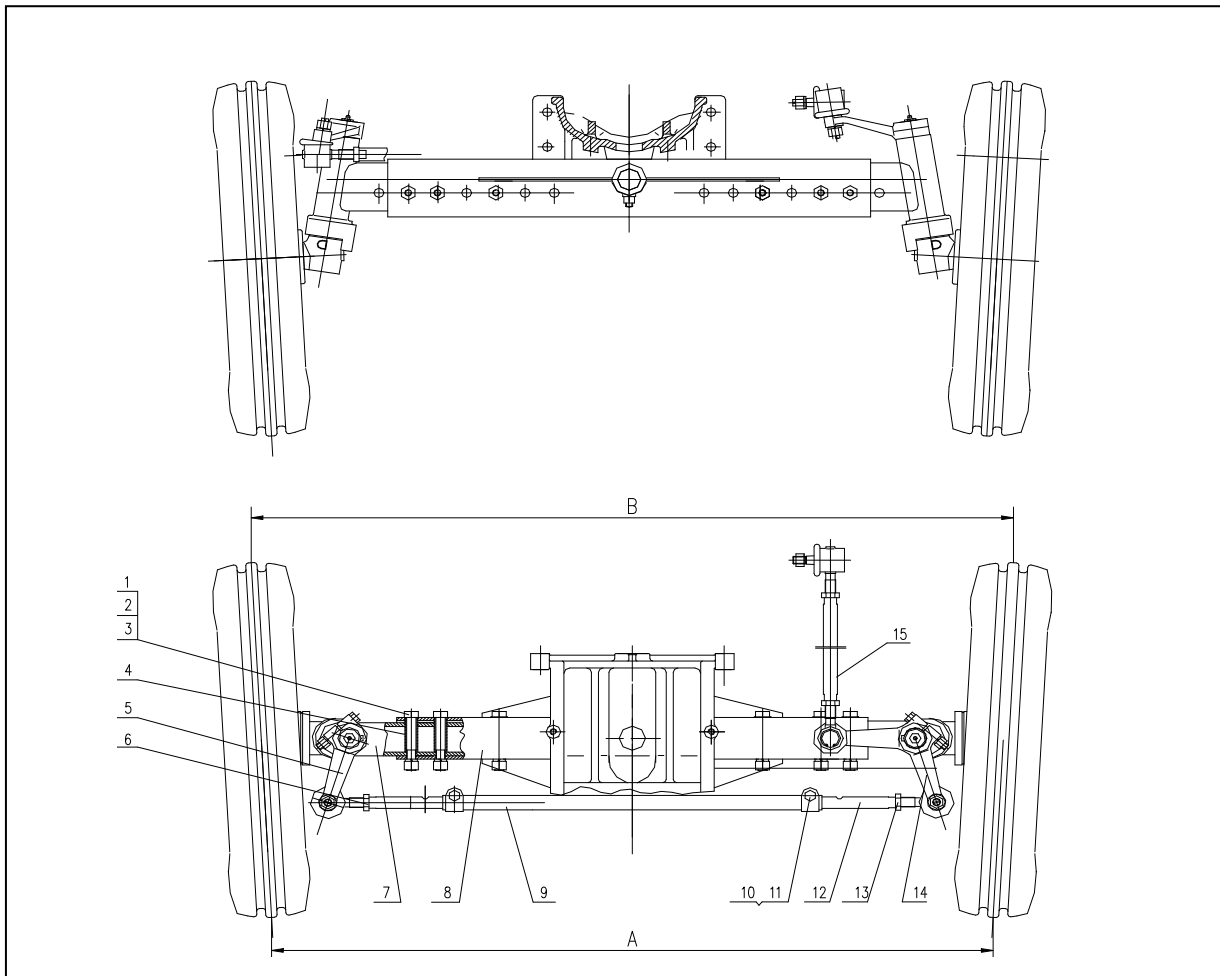

Fig. 5-10 Front shaft structure
5.3.5.1 Front shaft structure (see Fig. 5-10)